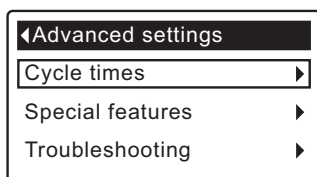

FIG. 67
3. Press the SELECT (O) button to display the Advanced settings menu (See Figure 67).